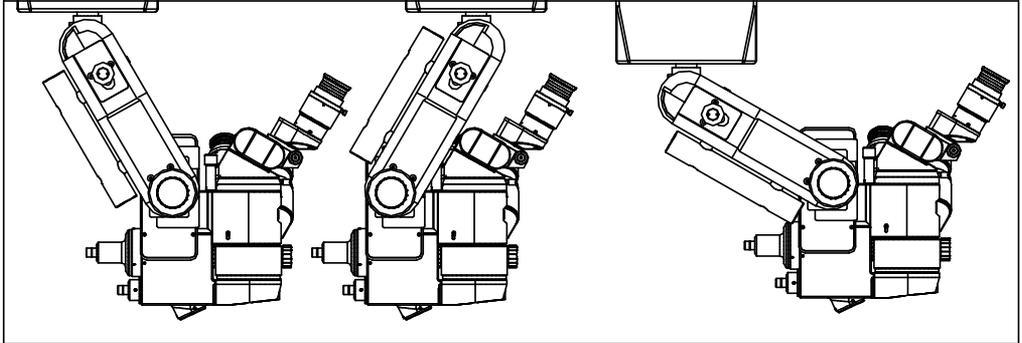

Fig.9
- 3.7.1 First check the packing case for the CCD device, and it includes the spare parts and tools(indicated in Fig. 9).
to 28° , and if the X-Y coordinator resets to the center, then the main microscope may be coaxial with the X-Y hanging shaft. When adjusting, pull out the spanner[45] and push downwards to depart the fixation block, and then rotate the holding arm till the needed angle, then the fixation block will rebound to the groove automatically(indicated in Fig. 9).